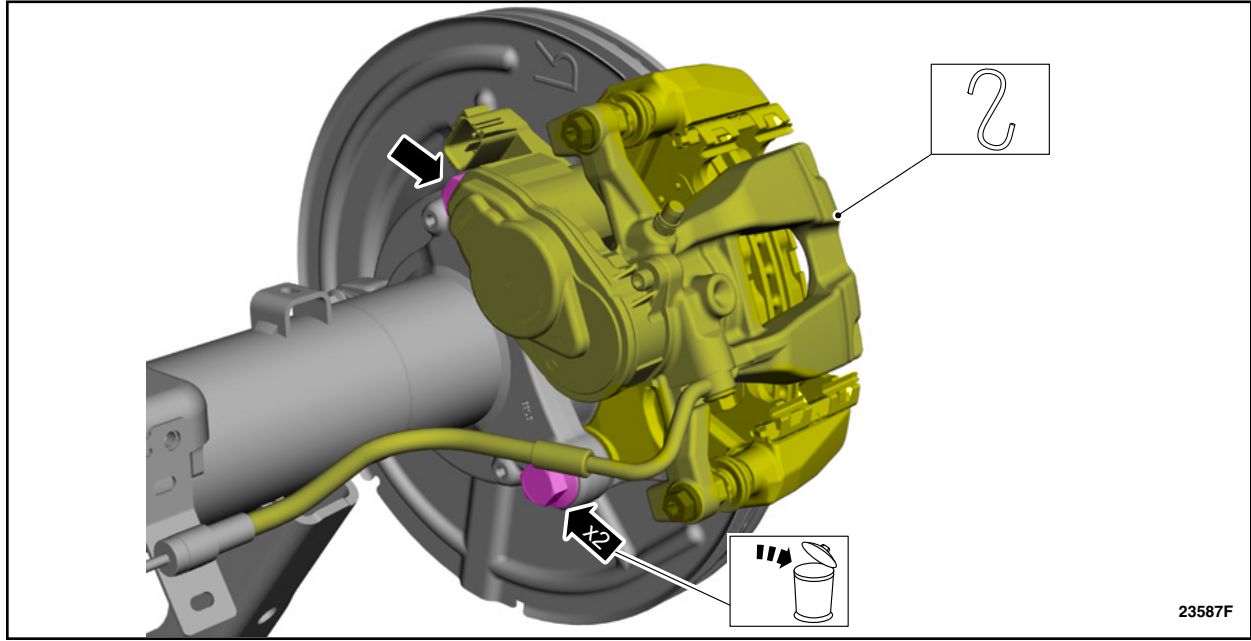

FIGURE 5
8. On both sides, remove and discard the two (2) anchor plate bolts and position aside the brake caliper and anchor plate assembly. See Figure 5.
12. On both sides, position back the brake caliper and anchor plate assembly and install the new bolts. See Figure 5.